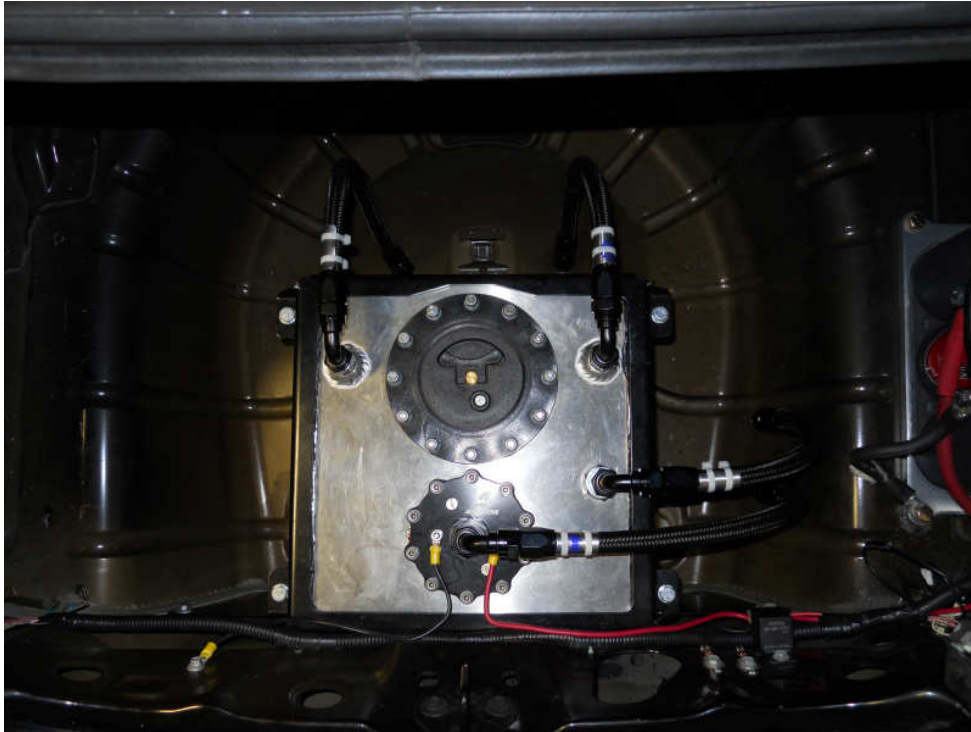

Figure 1-1
- 1-5. Find a suitable place in the trunk to mount the fuel cell. For mounting use Aeromotive bracket P/N 18701, or call Aeromotive. Pictured is a typical install of a fuel cell in a SN197, **Figure 1-1**.